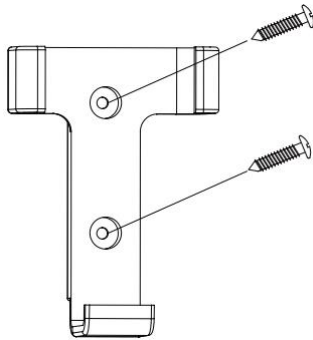

Fig. 12a
1. Locate a suitable wall to fix the remote control holder with the 2 screws. (Fig. 12a).